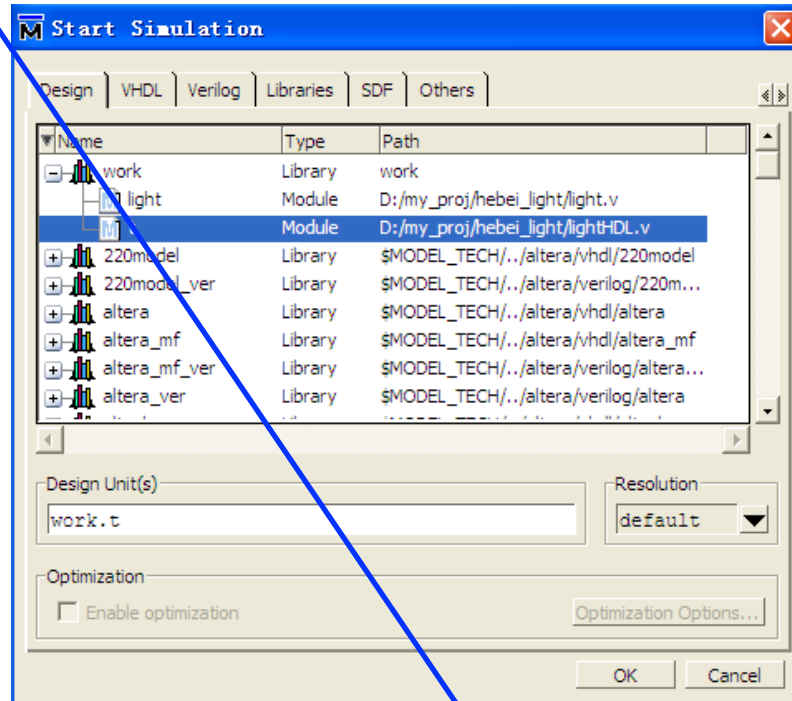

Figure 37. Choose Simulation Object
9. Load the Design and Click Menu **Simulate >Simulate**, then the interface shown in Figure 37 will appear.
- b. Click on the **+** icon to expand the work library (Figure 37).